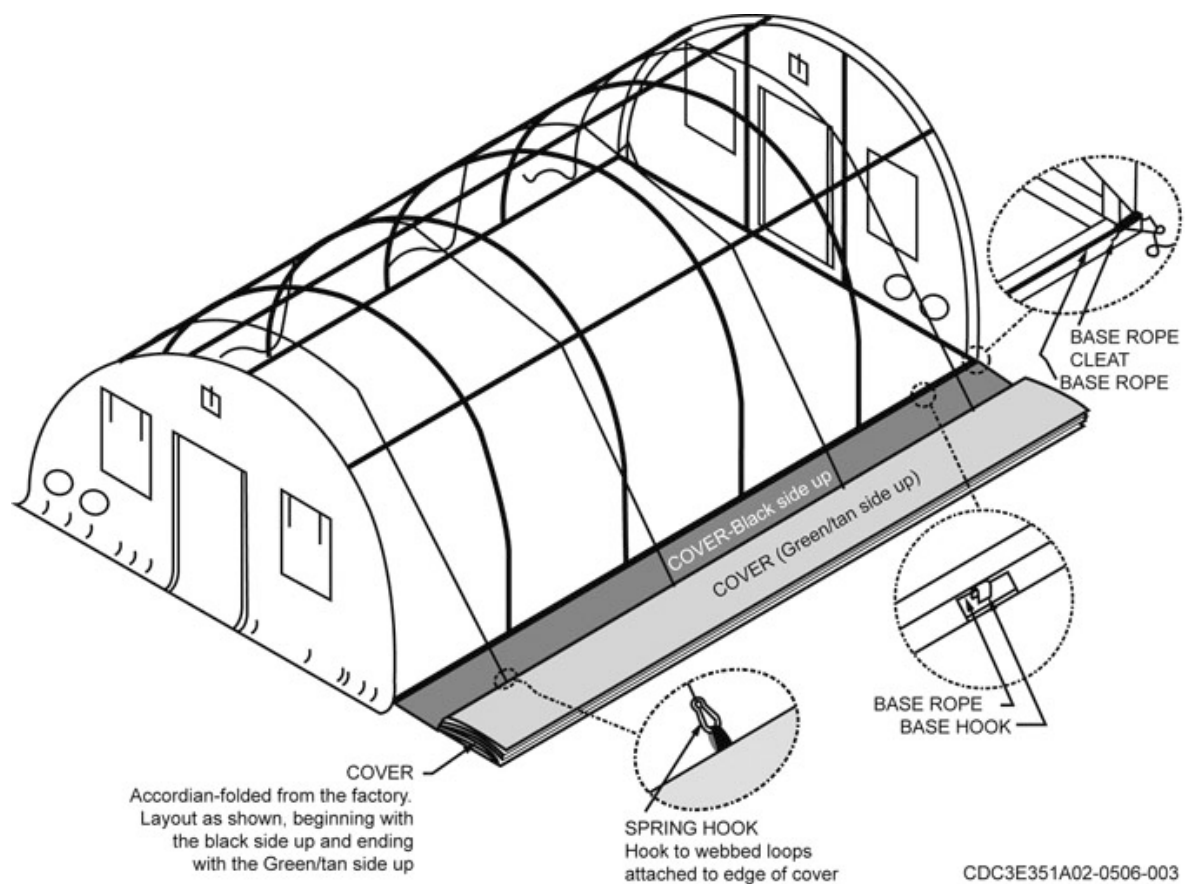

Figure 2-6. Main cover installation.
1. Lay the cover next to shelter so that when pulled over the shelter, the black side faces the inside (fig. 2-6).
4. With one person on each (4) rope, pull the ropes in unison to pull the cover over the frame.